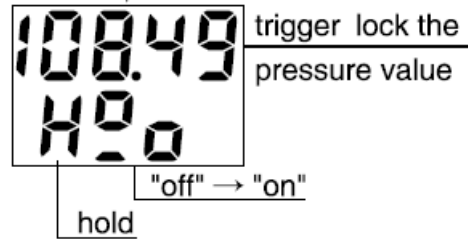

Figure 6: ADT672 set point results
1. Pressurize the pump to the set point. When the switch changes from open to close, the ADT672 will beep and the pressure at which the change occurred will be displayed on the screen along with the following symbol **H₀** (Figure 6).